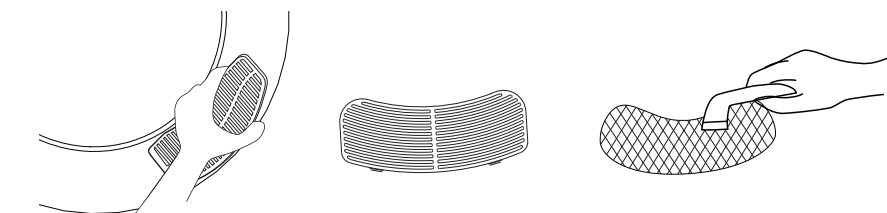

Fig. 13
- To remove the Air Intake Filter, hold the upper and lower ends of the Air Intake Shroud and pull it outwards, as illustrated below (Fig. 13).